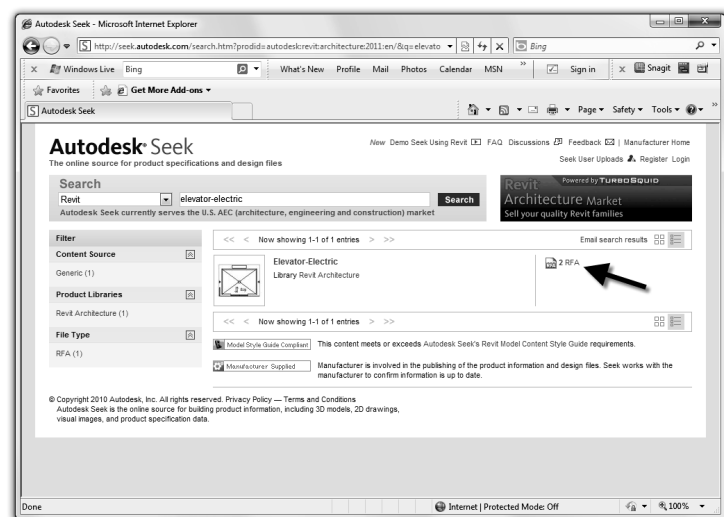

FIGURE 3-4.2 Seek.Autodesk.com
Your browser will open and you will be looking at the contents of Revit's Seek.Autodesk.com website (Figure 3-4.2).
- Click the **2 RFA** icon highlighted in Figure 3-4.2.